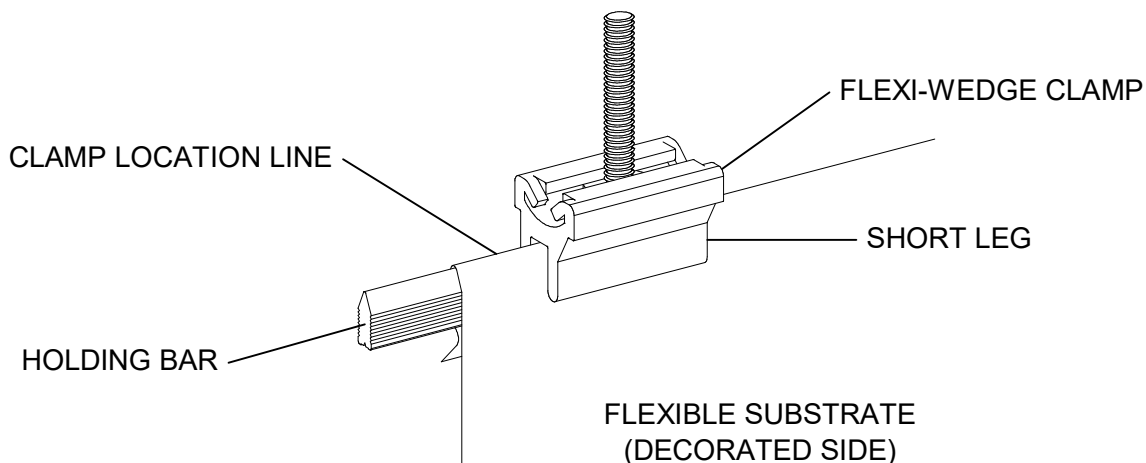

FIGURE 1: Clamp Anatomy
- C. Push the clamp over the sign face and then slide over the holding bar as shown in Figure 1, Page 1.